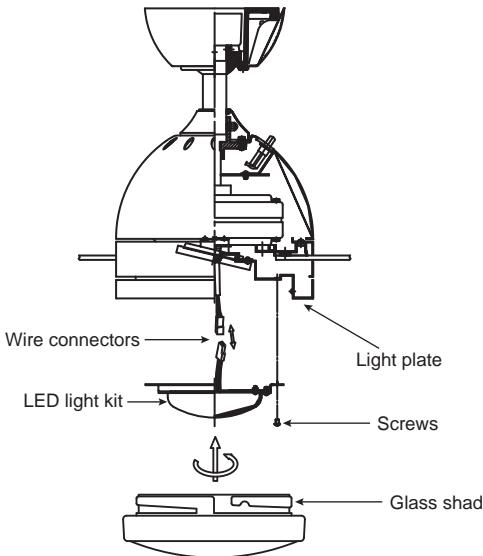

Fig. 18
Step 1. Loosen the three mounting screws on the inside of the LED light kit. (**Fig.18**)
Step 2. While holding the LED light kit under the fan motor, make the wire connections: (**Fig. 18**)
Step 3. Tuck the connections neatly into the light plate. Place the key holes on the LED light kit over the 2 screws previously loosened from the light plate, turn the LED light kit until it locks in place at the narrow section of the key holes. Secure by tightening all three screws. (**Fig.18**)
Step 4. Raise the glass shade against the light kit and turn clockwise until snug, DO NOT OVERTIGHTEN. (**Fig. 18**)